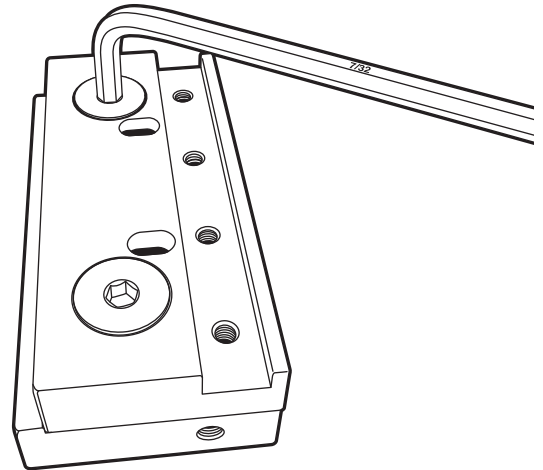

FIGURE 5—Use a 7/32" hex key for the 82° clamping screws.
3. Thread the two 82° screws into the FBP. Alternate between screws as you tighten them completely (see Figure 5).